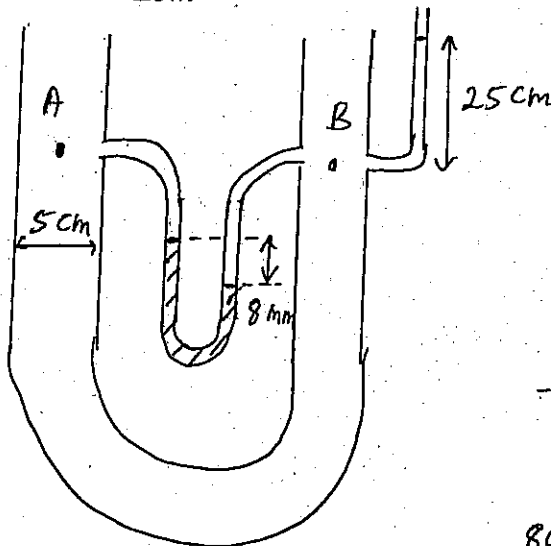

Figure 2
2) A pipe has a section ABC, which has a U-shaped bend in it, is kept in a vertical plane as shown in Figure 2. The pipe has a uniform diameter of 5 cm and the length along the pipe from A to B is 120 cm. A U-tube mercury manometer is connected to A and B, while a simple water manometer is connected to B, as shown in the figure. A and B are at the same horizontal level.